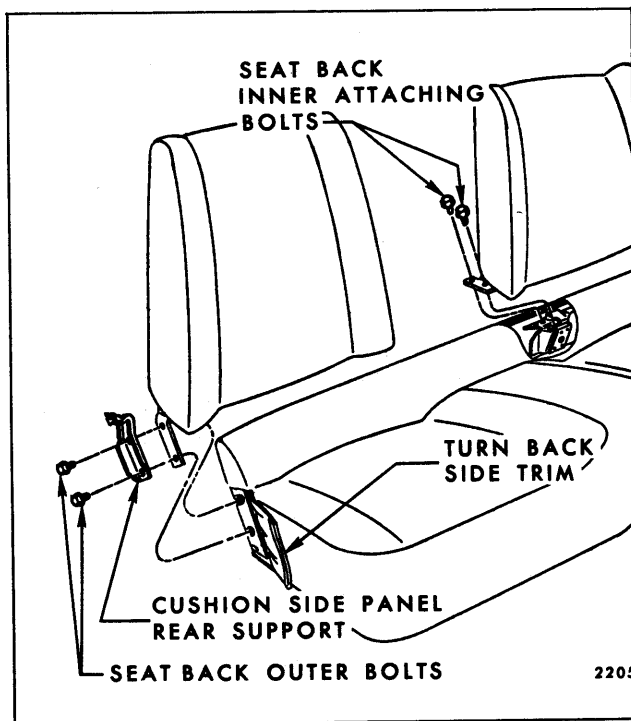

Fig. 15-33—Strato Full Width Seat Back Attachment
2. At side of seat from which seat back is being removed, remove hog rings securing cushion side trim at rear of seat and fold trim forward sufficiently to expose two seat back outer attaching bolts (Fig. 15-33).
5. To install seat back assembly, reverse removal procedure. Make certain seat side panel support (Fig. 15-33) is secured under seat back outer attaching bolts.
2. Remove seat side panel on side from which seat back is being removed. Remove hog rings securing seat cushion trim side facing at rear of seat and turn side facing forward sufficiently to expose seat back outer arm attaching bolts (Fig. 15-33).
4. Remove seat back outer arm attaching bolts (Fig. 15-33).